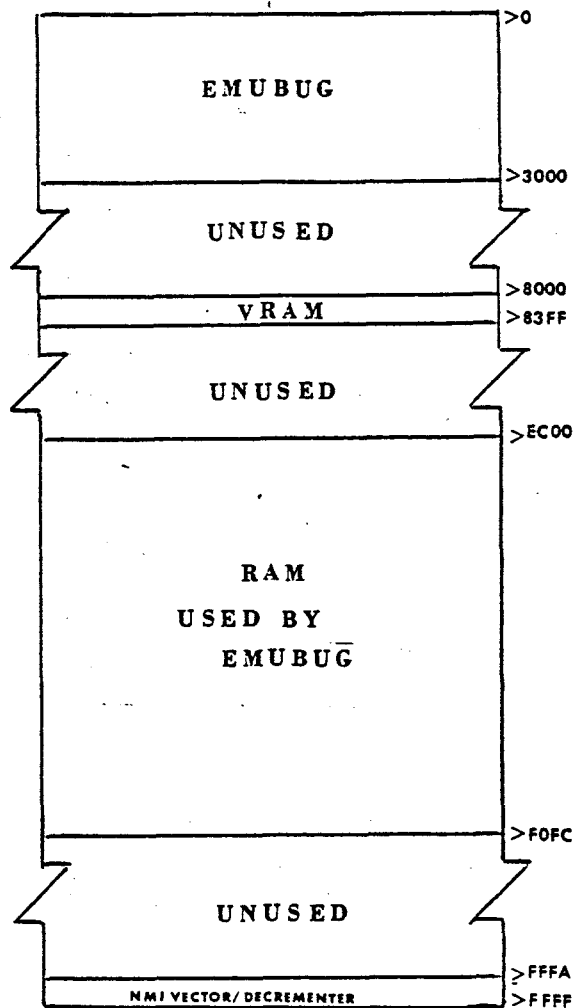

FIGURE 5-1. MODIFIED EVM BOARD MEMORY MAP.
- The EVM memory map shown in the EVM User's Guide (Figure 4-5) is no longer valid. The map presented in Figure 5-1 following, reflects the modified status of EVM memory.